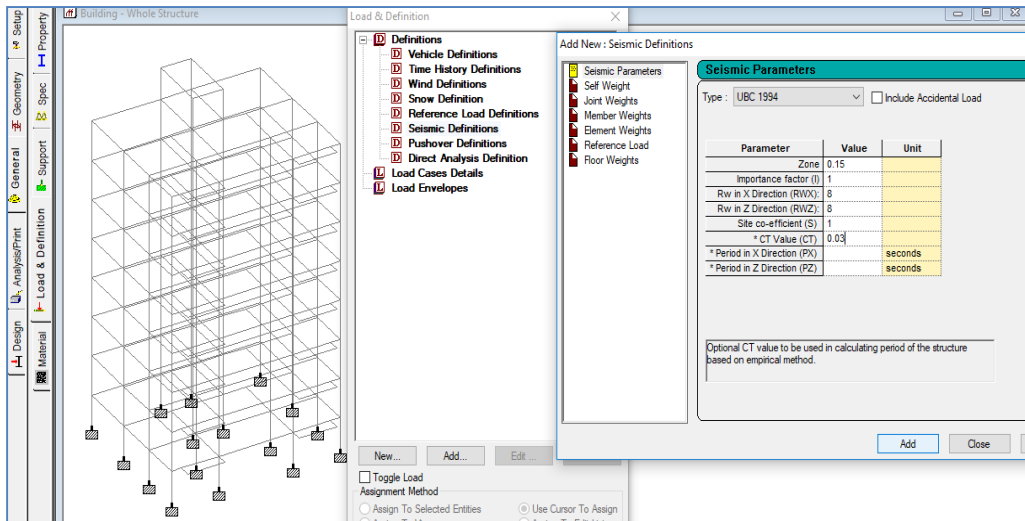
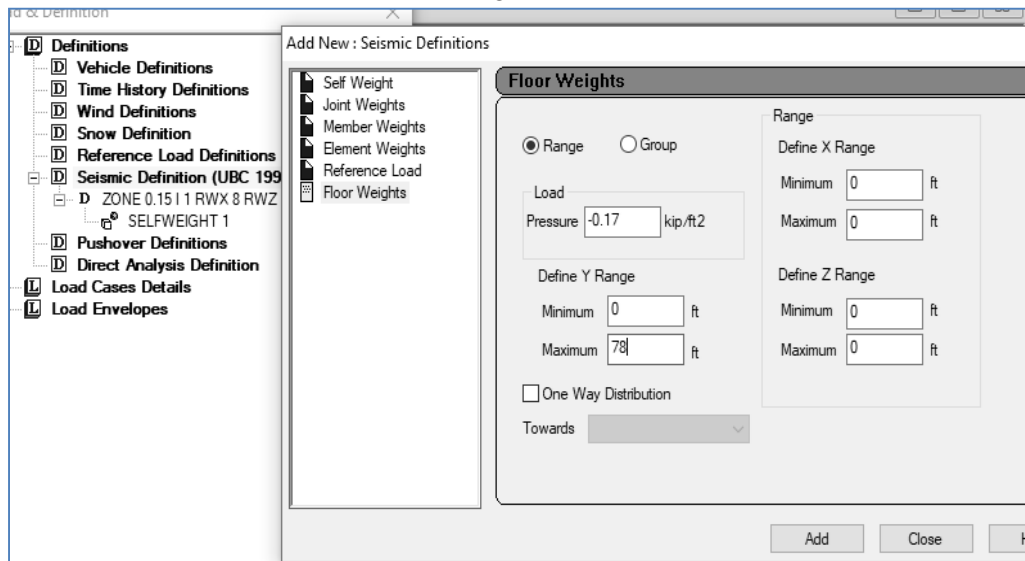

Fig: 5.14
Fig: 5.15
2.4.1 Earthquake Definition: Load & Definition → Definitions →Seismic Definitions →Add →Type: UBC 1994 →Then write down the parameter values as your given data building category →Add→Self weight Factor = 1→Add Then click on Floor Weights →Pressure = -0.17(Slab weight 75+FF 30+ PW 25+LL 40 =170 psf= 0.17 ksf) and Y range 0 to 78 →Add →Close. (Fig: 5.14 and Fig: 5.15)